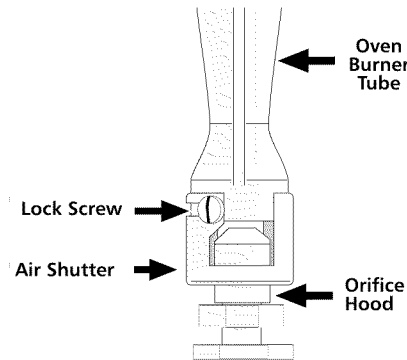

Fig. 14
- If adjustment to the air shutter is necessary, locate the broiler burner air shutter (See Fig. 14), loosen shutter lock screw, and adjust to obtain optimum flame. This will normally be completely open for LP/Propane gas. If the flame is yellow in color, increase the air shutter opening size. If the flame is a distinct blue, but lifting away from the burner, reduce the air shutter opening size. Tighten the shutter set screw.